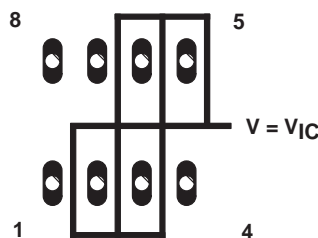

Figure 38. Isolation Metal Around Device Inputs
- Isolate the device from other potential leakage sources. Use a grounded shield around and between the device inputs (see Figure 38). Leakages that would otherwise flow to the inputs are shunted away.
Because of the extremely high input impedance and resulting low bias-current requirements, the TLV232x is well suited for low-level signal processing; however, leakage currents on printed-circuit boards and sockets can easily exceed bias-current requirements and cause a degradation in device performance. It is good practice to include guard rings around inputs (similar to those of Figure 38 in the Parameter Measurement Information section). These guards should be driven from a low-impedance source at the same voltage level as the common-mode input (see Figure 42).